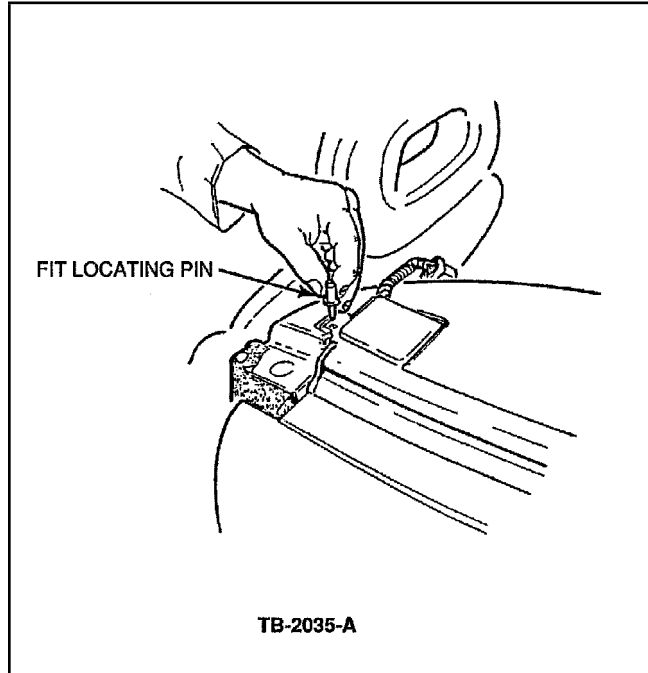

Figure 6 - Article 91-20-2
8. Fit hardtop locating pins, supplied loose in kit, to the left and right hand side hardtop retaining locations, Figure 6.